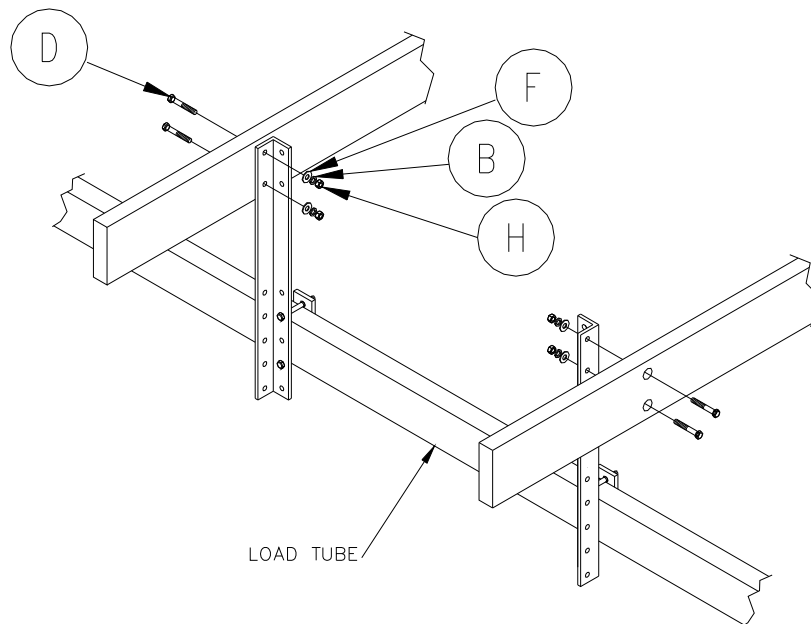

Figure 2-7.
4. **Refer to Figure 2-7.** Place two of the 2” x 6” x 12’ pressure treated wood into the Mounting angles. Ensure that the ends of the wood are even with one another.